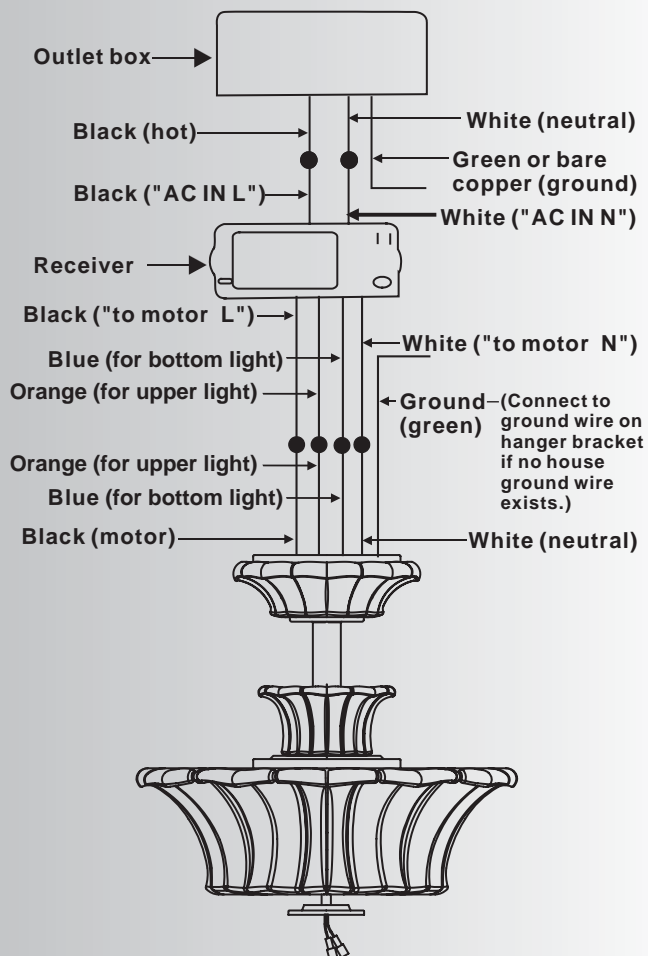

Fig. 14
Step 2. (Fig. 14) Motor to Receiver Electrical Connections: Connect the black wire from the fan to the black wire marked "TO MOTOR L" from the receiver. Connect the white wire from the fan to the white wire marked "TO MOTOR N" from the receiver. Connect the blue wire from the fan to the blue wire marked "FOR BOTTOM LIGHT" from the receiver. Connect the orange wire from the fan to the orange wire marked "FOR UPPER LIGHT" from the receiver. Secure all the wire connections with the plastic wire nuts provided.
Step 3. (Fig. 14) Receiver to House Supply Wires Electrical Connections: Connect the black (hot) wire from the ceiling to the black wire marked "AC in L" from the receiver. Connect the white (neutral) wire from the ceiling to the white wire marked "AC in N" from the Receiver. Secure the wire connections with the plastic wire nuts provided.
Step 4. (Fig. 14) If your outlet box has a ground wire (green or bare copper) connect it to the fan ground wires; otherwise connect the hanging bracket ground wire to the mounting bracket. Secure the wire connection with a plastic nut provided. After connecting the wires, spread them apart so that the green and white wires are on one side of the outlet box and black and blue wires are on the other side. Carefully tuck the wire connections up into the outlet box.